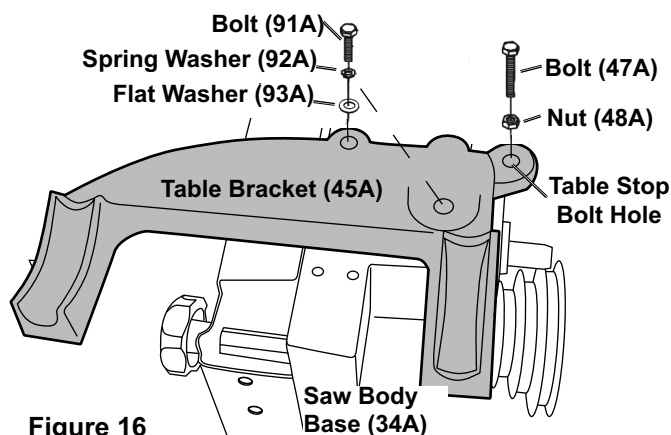

Figure 16
1. Set the Table Bracket (45A) onto the Saw Body Base (34A) as shown in Figure 16. Note that the Table Bracket has a Stop Bolt Hole which should be on the same side as the Pulley. Also, the Saw Body Base has two threaded holes for two Bolts (91A).
3. Thread the Nut (48A) all the way to the head of Bolt (47A). Install the Bolt with Nut into the Table Stop Bolt Hole noted in Figure 16.